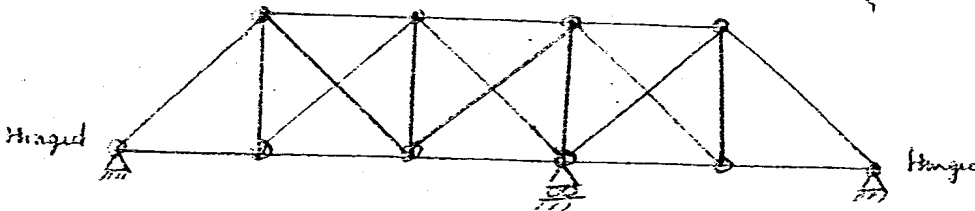

Fig 2
- (i) Determine internal and external statical indeterminacy of plane truss shown in Fig. 2. (2)
- (i) The truss of Fig.2 is to be analyzed by matrix method using 'manual calculations'. Which method is better suited and why? The choice is between Flexibility and Stiffness Matrix Methods. (3)